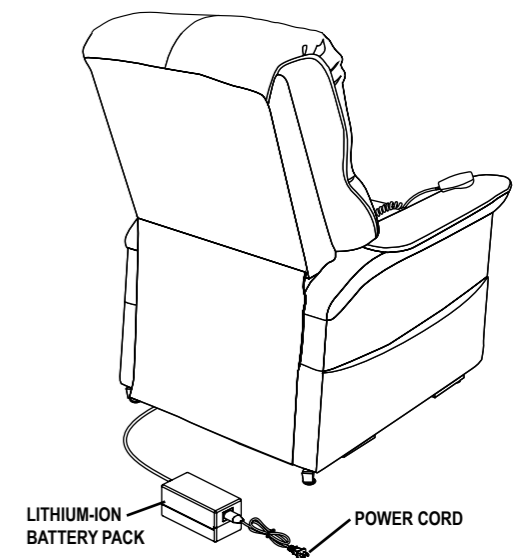

Figure 4.2.2 Lift Chair Battery Back Up Location
**Follow these steps to replace the lithium-ion battery pack batteries (See Figure 4.2.2 and Figure 4.2.3):**